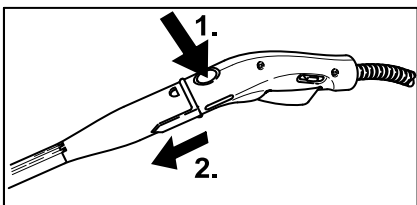

Figure 6
- To detach the accessory parts, press the unlocking button (C2 or G2), and pull the items apart (see Fig. 6).